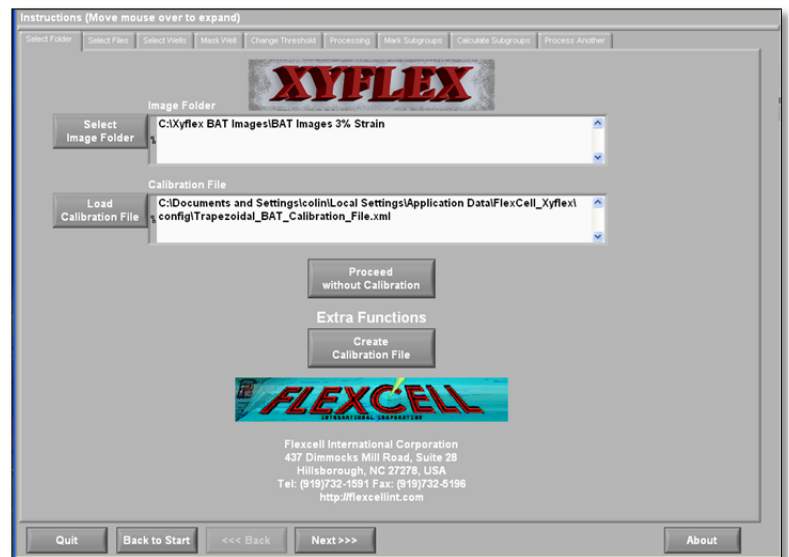

Figure 17. Image folder and calibration file selection
- 2) The selected directory should appear in the XYFLEX™ window (Figure 17) next to the *SELECT IMAGE FOLDER* button.